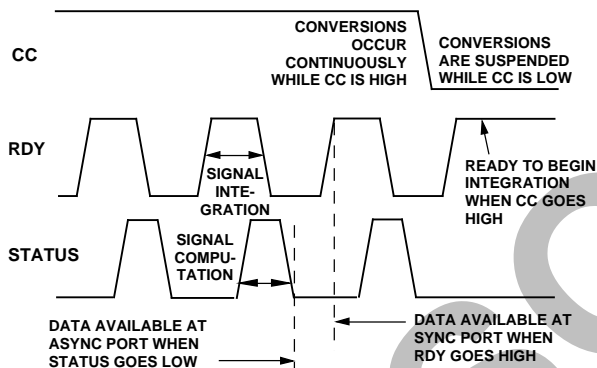
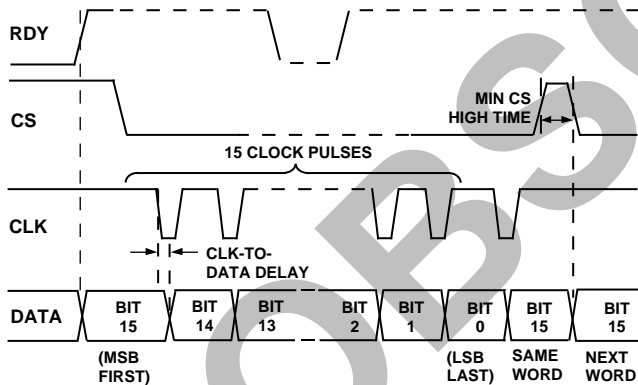

Figure 2a. Continuous Conversion
Figure 4. Reading Data from the Synchronous Port
In normal operation, the Continuous Conversion (CC) Pin is high, and the AD1B60 performs continuous conversions, alternating between signal conversions and background conversions, such as autozero or cold junction compensation (see Figure 2a).
Using the CS (chip select), CLK (clock input), and DATA (data output) pins of the AD1B60, you can read data at speeds up to 5 MBPS (see Figure 4). When RDY goes high at the beginning of a conversion cycle, the MSB of the previous data word appears at the DATA output (see Figures 2a and 2b). Bringing CS low freezes the data in the synchronous port buffer. Results of other conversions won't be transferred to the synchronous port buffer while CS is low. 15 CLK pulses will read out the remaining bits of the word in the synchronous port buffer. Further CLK pulses will continue to read out the same data bits from this circular buffer.